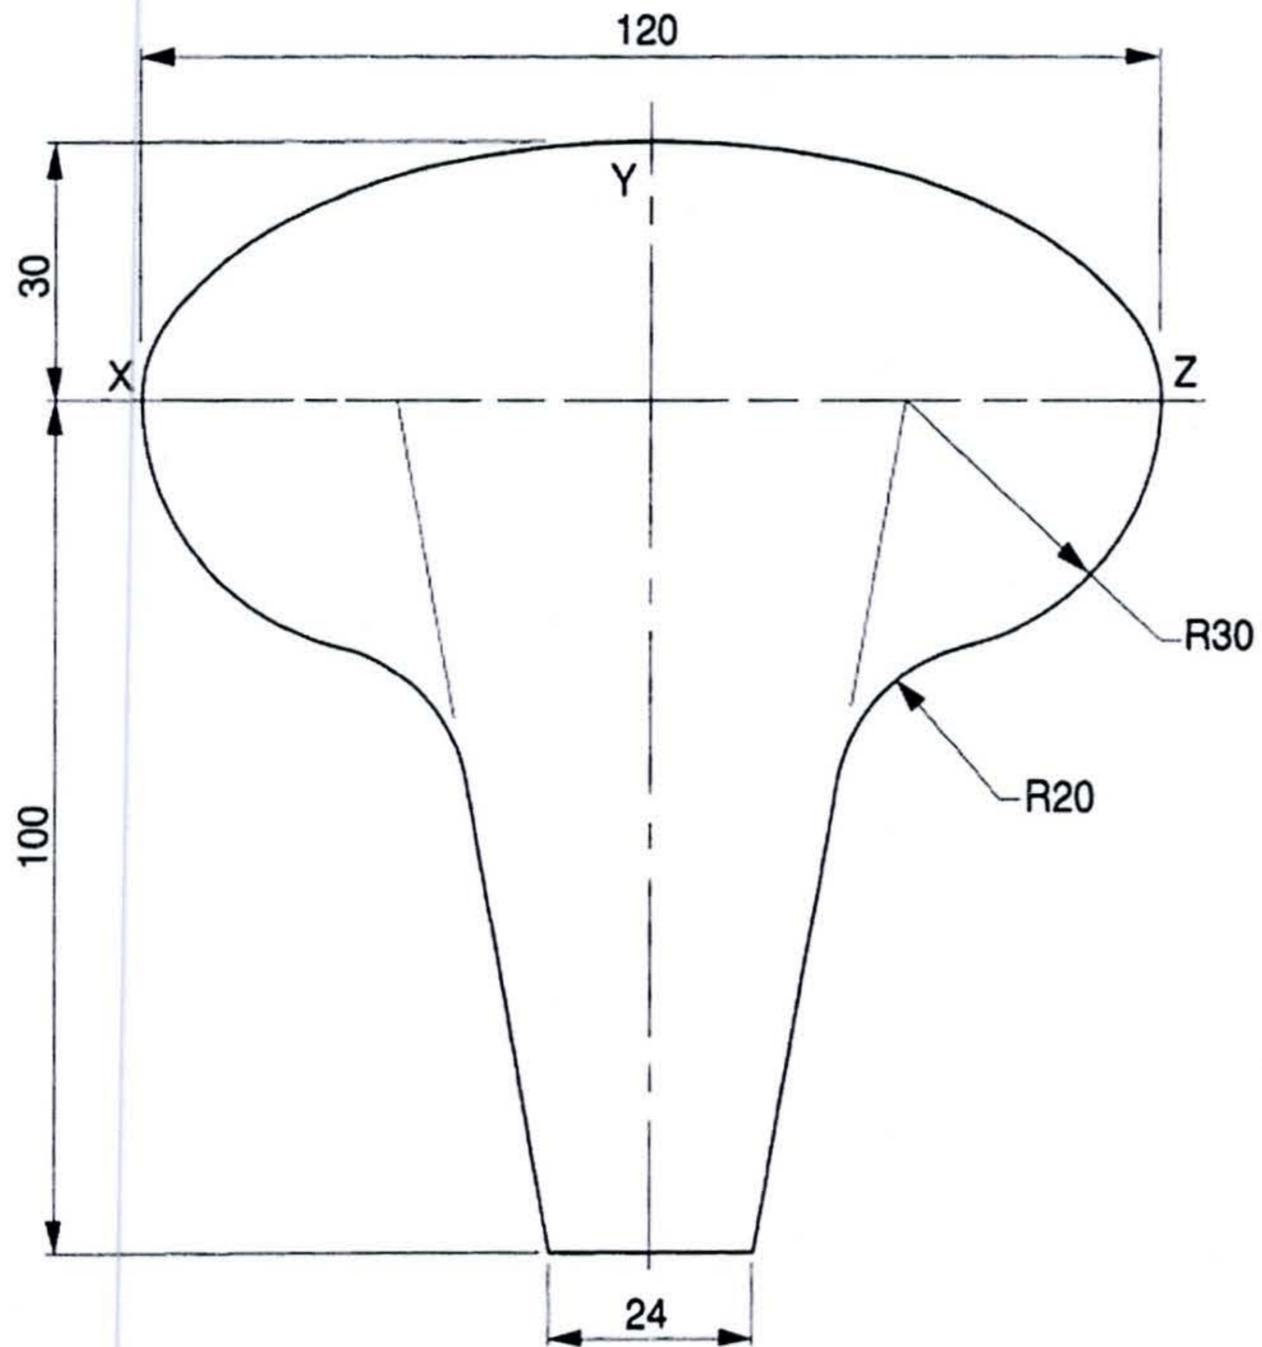

Fig Q3(b)
- b) Draw the profile of the **Metal Worker's Dolly** shown in Fig. Q3(b). The curve XYZ is a semi-ellipse. **[15 marks]**